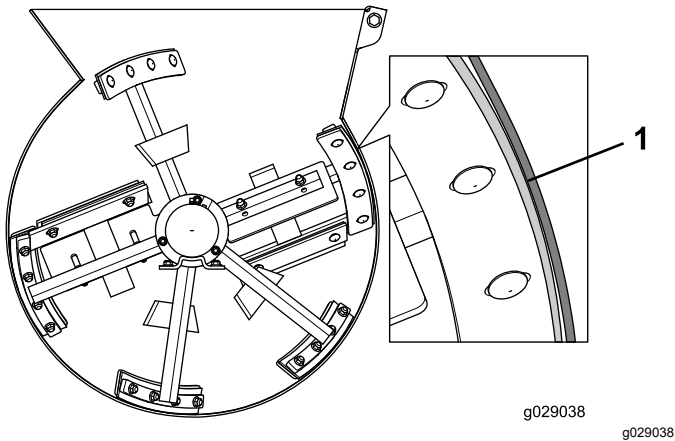

Figure 70
5. Adjust the position of the wiper so that the wiper lightly contacts the drum across the length of the wiper (**Figure 70**).